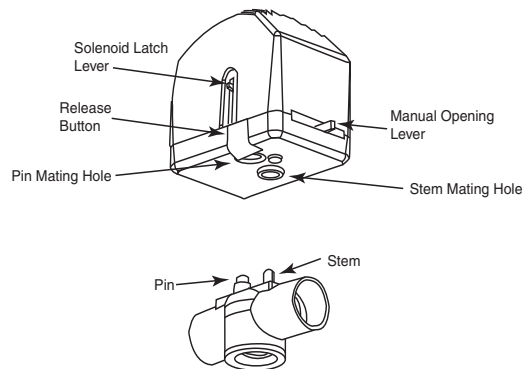

Figure-4 Three-Way Spring Return Valves
2. With the valve in mid-position, latch the solenoid by placing the manual solenoid latch lever in the "Up" position. Detach the actuator by depressing the release button and pulling it away from the valve body (Figure-4).
When installing threaded valves, the actuator should be detached from the valve body to ease installation. To do so, first slowly move the actuator's manual operating lever (on the front of the actuator) to mid-position. Latch the solenoid by placing the red manual solenoid latch lever on the side of the actuator to the "Up" position. Finally, detach the actuator by depressing the release button and pulling the actuator away from the valve (Figure-4).
3. Align the valve body with the actuator to ensure the stem is inserted into the large mating hole on the bottom side of the actuator (Figure-4).